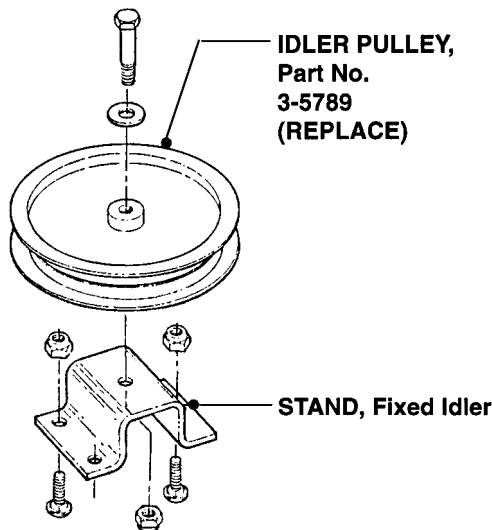

FIGURE 8.20
7. Check the front Idler Pulley for "free-turning" also. Replace parts as required. See Figure 8.20.